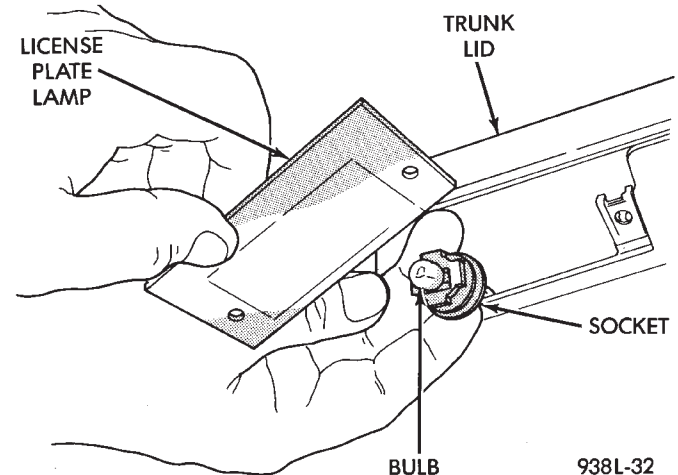

Fig. 5 License Plate Lamp Bulb—Typical
- (1) Release trunk latch and open trunk.
- (2) Remove license plate lamp from trunk lid or fascia.
- (3) Remove socket from license plate lamp (Fig. 5).
- (4) Pull bulb from socket.